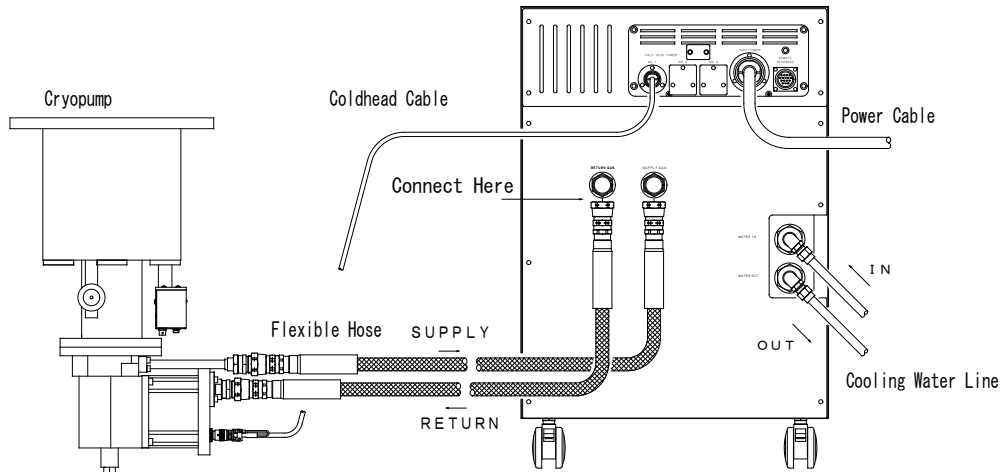

Figure 8-6 Connecting Flexible Hoses
11. Make sure that the flat rubber gasket of the self-sealing coupling is properly mounted, i.e., not disconnected nor twisted. Then reconnect each flexible hose to the compressor unit. (See Figure 8-6).